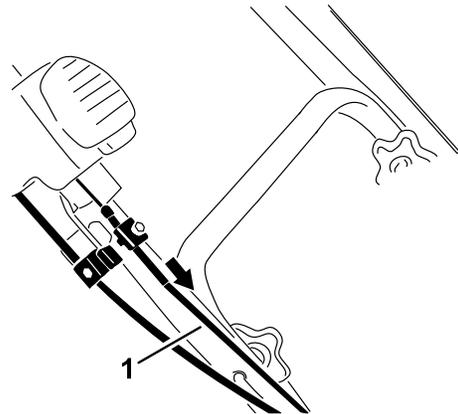

Figure 35
- Pull the upper cable casing forward until you remove the slack in the cable, and tighten the screw on the upper cable clamp securely (Figure 35).